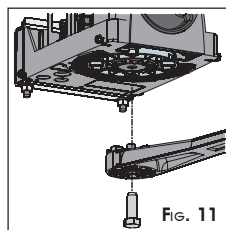

FIG. 11
- ⑥ Install the straight arm (Fig.11) with the supplied screw.